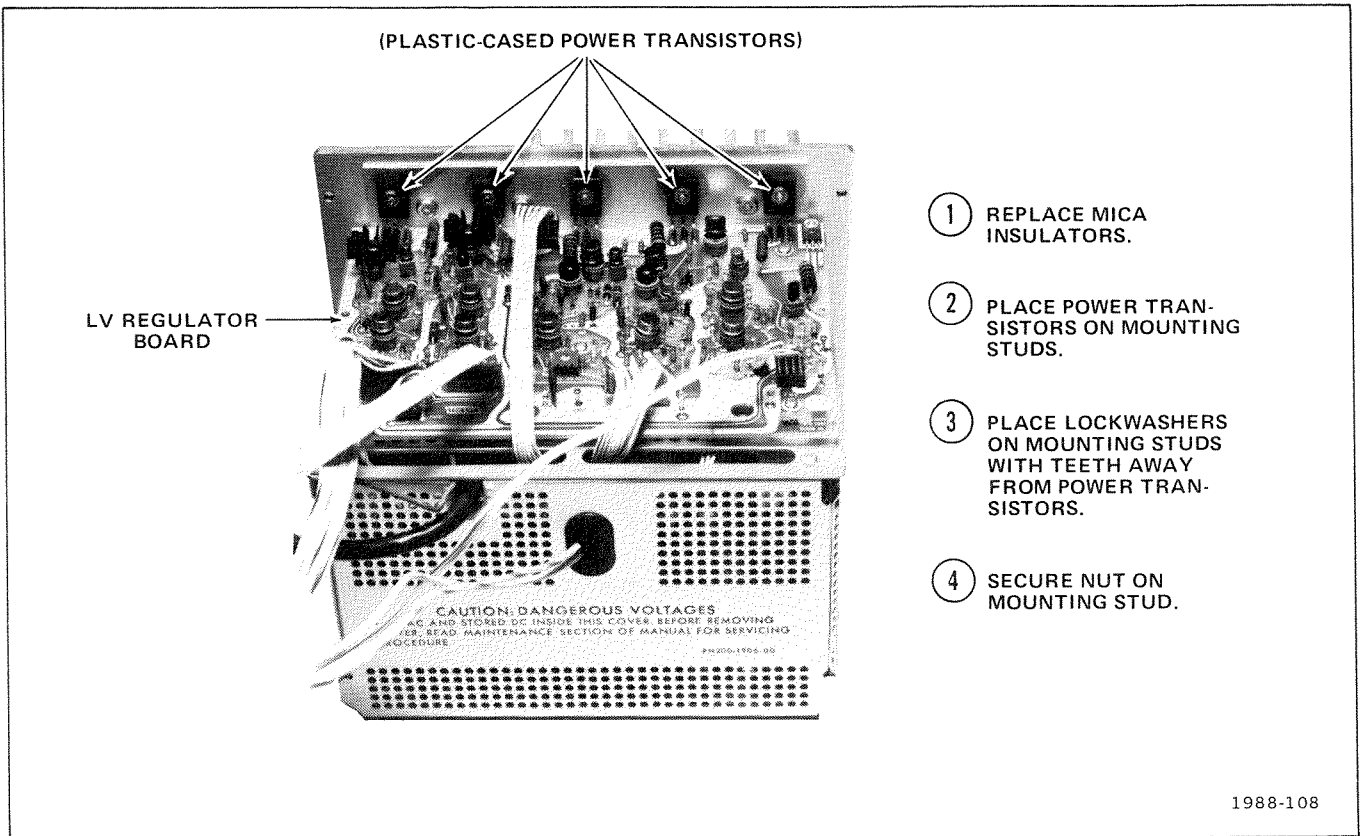

Figure 4-12. Correct placement of power transistor and mounting hardware on rear heatsink.
5. Remove the mounting hardware securing the plastic-cased power transistors to the rear heatsink (see Fig. 4-12). Note the position of the lockwashers so they can be correctly replaced.